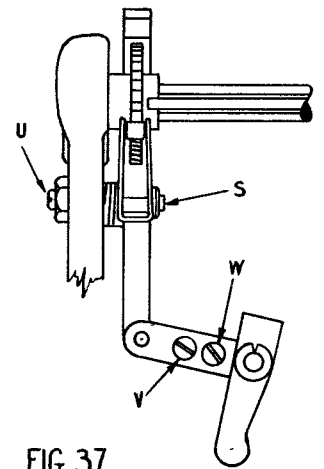

FIG. 37
57. RETURN THE FEED PAWL T TO NORMAL. ENGAGE THE LINE FEED DOG WITH THE CROSSHEAD & TURN THE MACHINE BY HAND UNTIL THE FEED PAWL IS AT THE BOTTOM OF ITS STROKE. THE RATCHET WHEEL Q SHOULD NOW HAVE REVOLVED ONE TOOTH & THE JOCKEY ROLLER SHOULD AGAIN BED HOME. ADJUST, WITH THE FEED PAWL AT THE BOTTOM OF ITS STROKE, BY MOVING ECCENTRIC V (FIG 37) UNTIL THE ROLLER BEDS HOME. RECLAMP BY NUT & BOLT W. SWITCH TO DOUBLE LINE FEED & CHECK THE OPERATION.